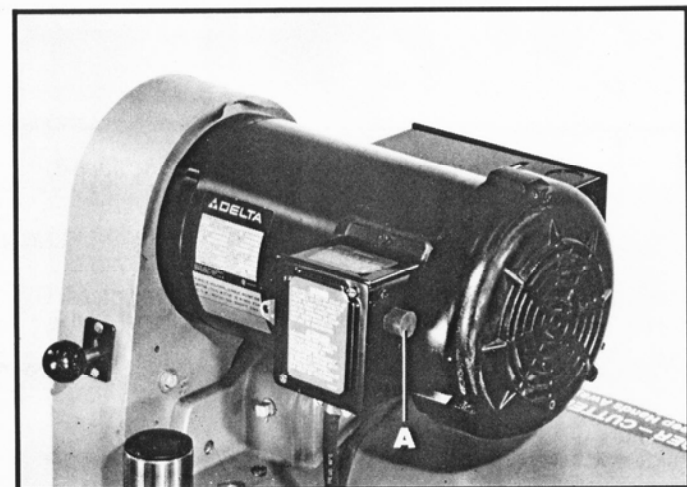

Fig. 23
Single Phase Machines - Turn off the switch, let the motor cool for approximately five minutes and push the reset button (A) Fig. 23, which will reset the overload device. The motor can then be turned on again in the usual manner.